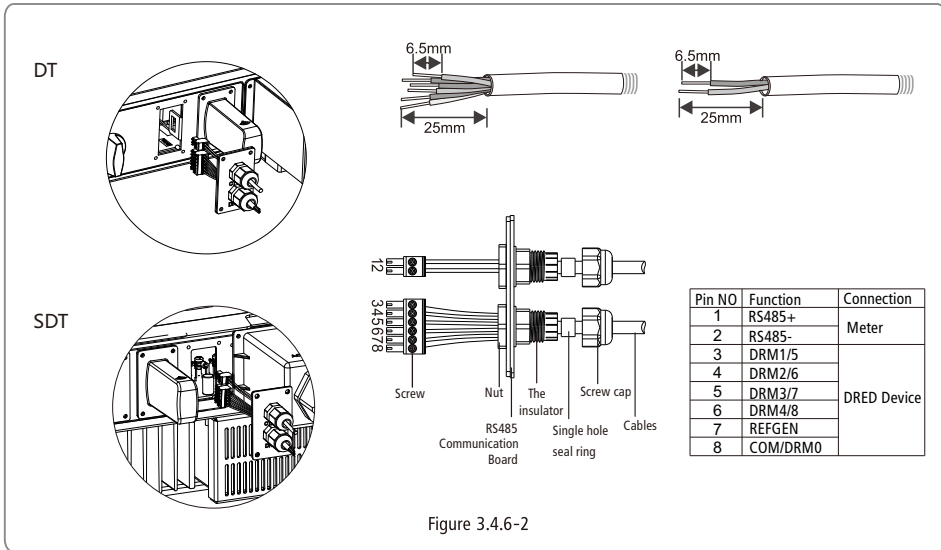

Figure 3.4.6-2
Connection method of DT series power limiting meter please refer to Figure 3.4.6-1.
- Pull out the 6-pin terminal from the socket in the cabinet and take off the resistor which is fixed in it.Cable should be connected as Figure 3.4.6-2.